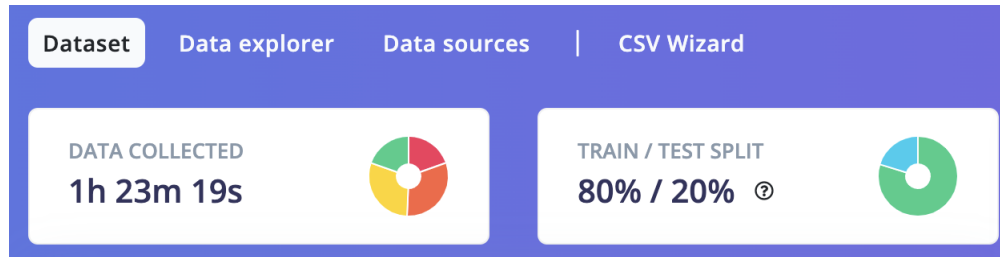

Figure 10.2: Once the data is uploaded this figure shows what your project should look like.
- (g) Once your data is uploaded, the page should look similar to Figure 10.2